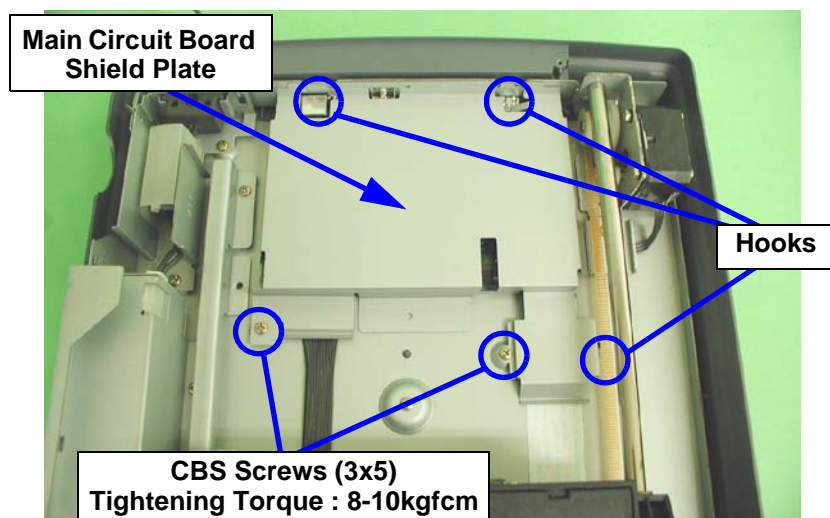

Figure 4-17. Main Circuit Board Removal (1)
4. Gently slide the carriage unit forward so that the main circuit board shield plate is visible. (See Figure 4-17)
5. Remove the two screws (CBS, M3x5) and disengage the three hooks, and then remove the main circuit board shield plate. (See Figure 4-17)